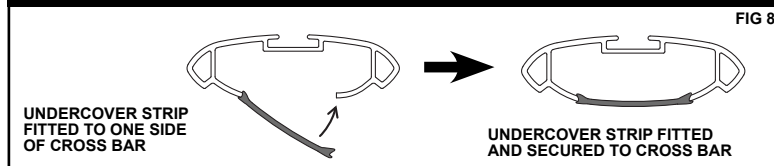

FIG 8
8. Place one side of the Undercover Strip into the position as shown in Figure 8. Apply pressure along the edge of the Undercover Strip until the whole length is clipped securely into position.